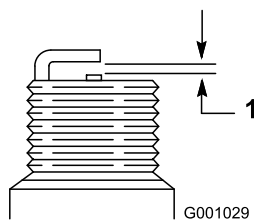

Figure 35
7. Set the gap between the electrodes on a new spark plug at 0.030 inch (0.76 mm) (Figure 35).